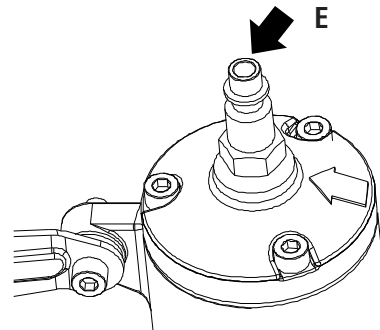

Fig. 10
Before using the finish nail gun for the first time and after each use, lubricate air inlet (E) of the finish nail gun (Fig. 10). To lubricate, insert 2-3 drops of lubricant. Using too much oil will cause it to collect in the tool and be noticeable in the exhaust.